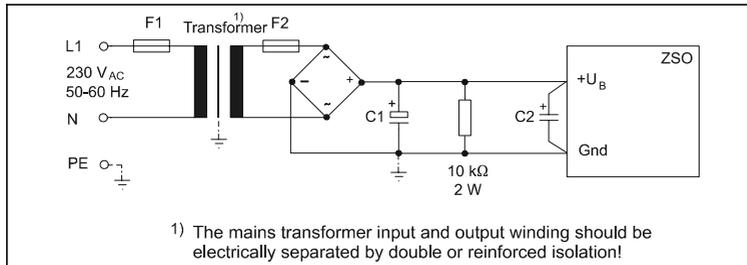

Fig. 13: Example of supply unit
4. If the supply leads between the mains and the ZSO module are longer than 500 mm, connect a capacitor (C2, approx. 47 µF/200 V - refer to figure 13) as close as possible to the connector. This capacitor should be adapted for switching applications and have a low ESR factor (e.g.: Roederstein type EKM 47 µF/200 V).